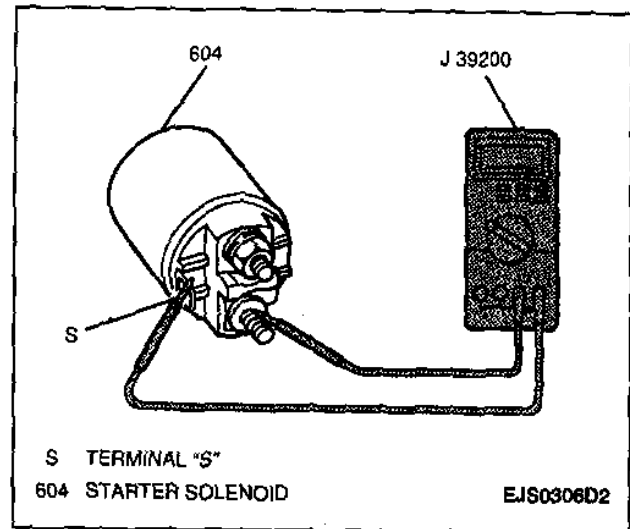

Figure 30—Measuring Starter Solenoid Hold-In Coil Resistance
10. Starter solenoid hold-in coil resistance between terminal "S" and the solenoid case using the J 39200 (Figure 30). If resistance is not 5.0 ohms or less, the hold-in coil is open and the starter solenoid must be replaced.